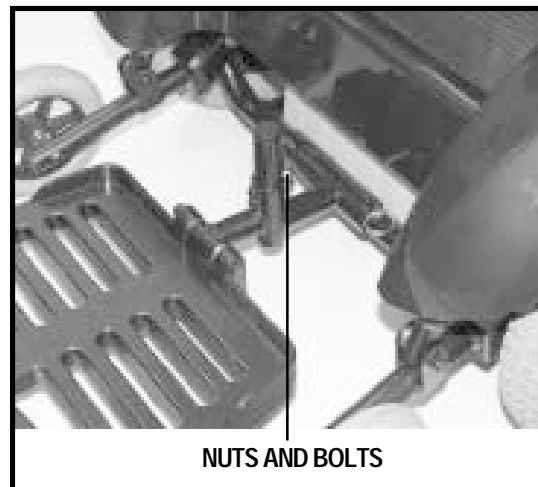

Figure 15. Foot Platform Height Adjustment
1. Remove the nuts and bolts from the foot platform bracket. See figure 15.